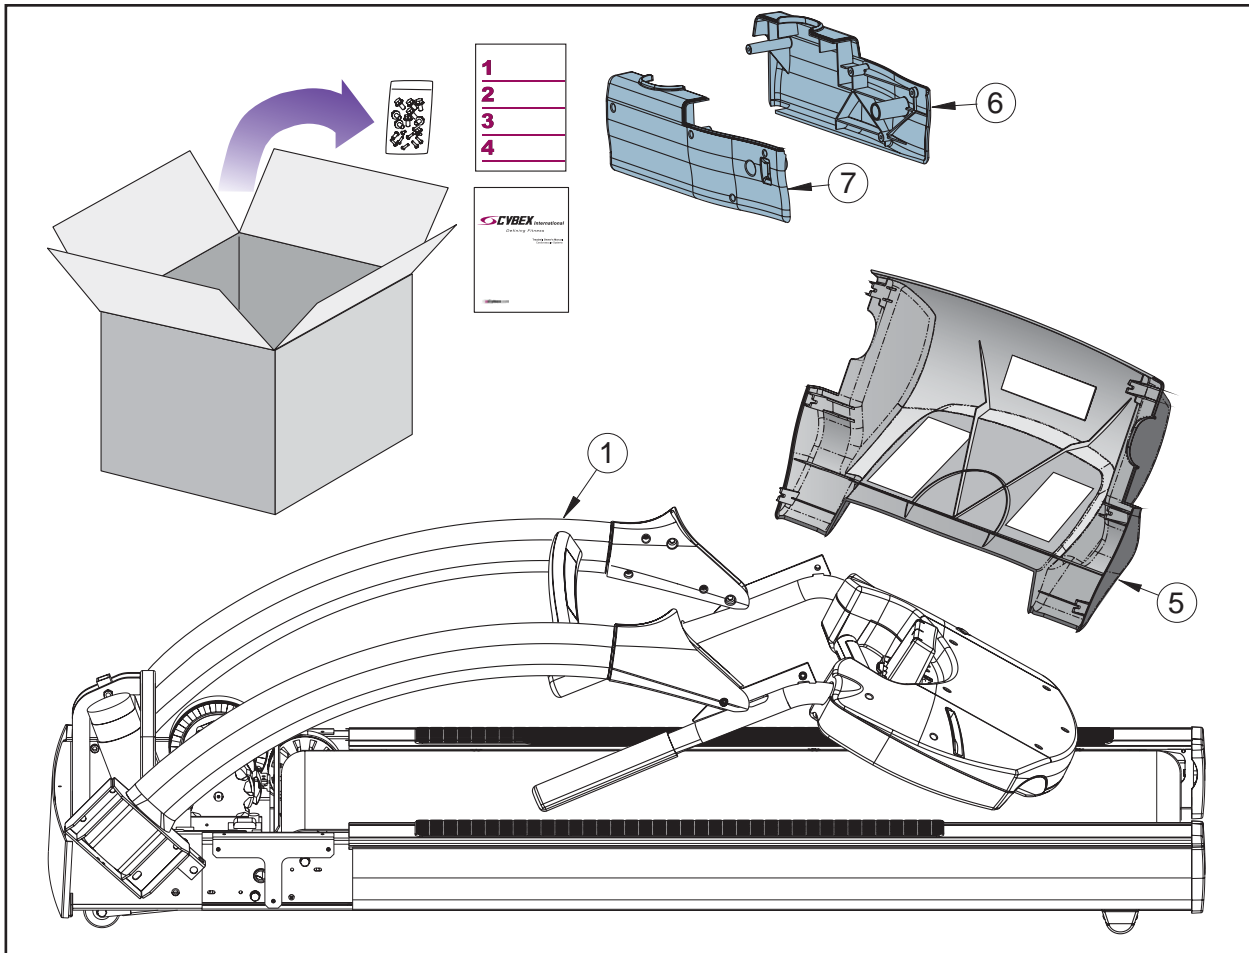

Figure 1
- B. Check to be sure that the following items are present. Check off () each item as you find it. See Figure 1. If any of the parts are missing contact Cybex Customer Service.